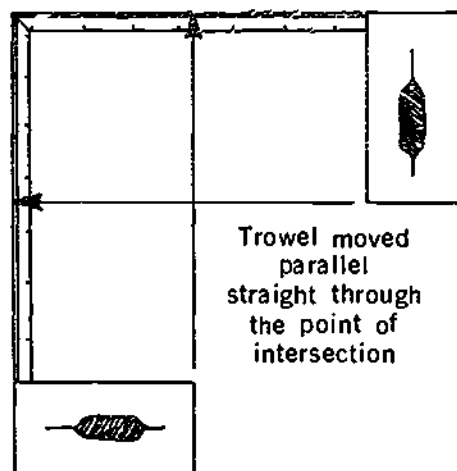

Figure 5-12
3. Remove the excess from one bead, then from the other as soon as possible. Go through the intersection on both passes (Figure 5-12).